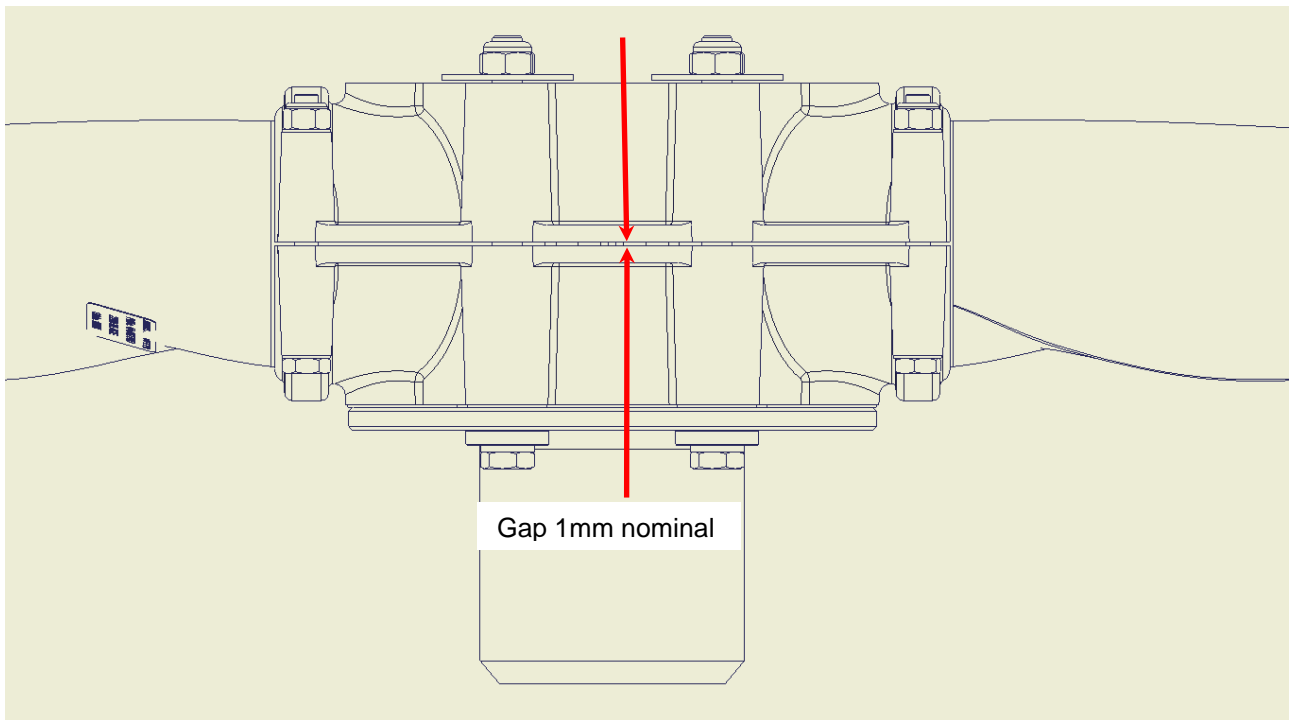

Figure 7 – Hub Gap (View from beside hub)
- 6. Ensure that the gap between the front and rear hubs is even on both sides (Figure 7).